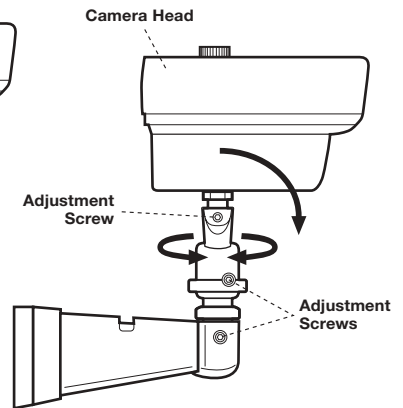

Fig. 4.
3. Adjust the camera head position as required and tighten all screws using the allen key tool supplied in the fixing kit. You can make adjustments to the camera head positions as shown (Fig. 4).